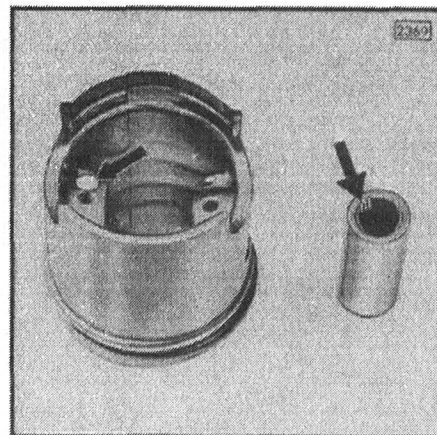

Fig. 11
- 2 or 3 dots on end of wrist pin (fig. 11).